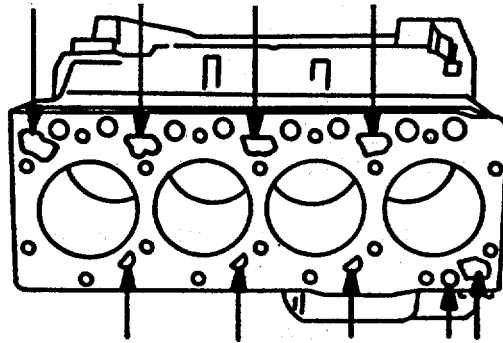

FIGURE 4-87. Inspecting Coolant Passages
- c. Inspect coolant passages (FIGURE 4-87) for deposit build up. Excessive deposits may be cleaned in an acid tank. Be sure cam bushings are first removed.